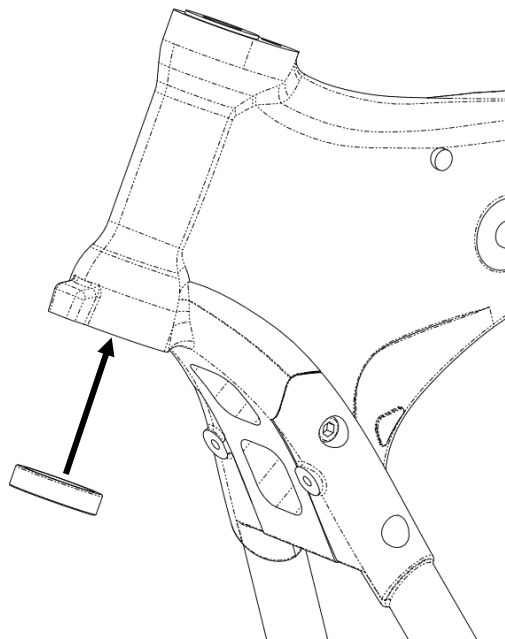

Figure 21: Install the bearing race in the frame.
3. Install the provided bearing race in the frame with the cone facing out. Use a bearing / seal driver or a brass drift or other soft material to tap the race in place. Do not dent or scratch the race. Work your way around the race to drive it in evenly. Make sure the race is fully seated in the frame before proceeding. See Figure 21.